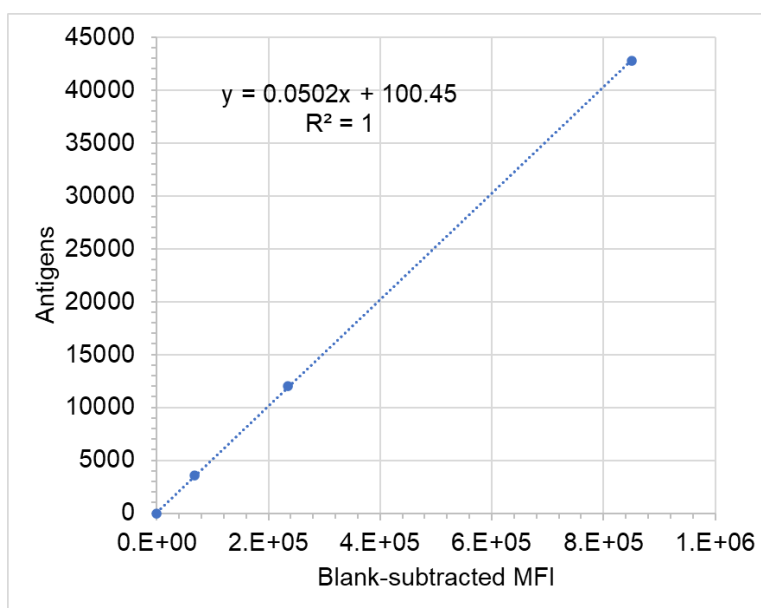

Figure 1. Standard curve of antigens per cell versus blank-subtracted MFI.
- i. Properly gate the population for TruCytes™ as in Figure 1 below in a plot of SSC-A versus FSC-A.